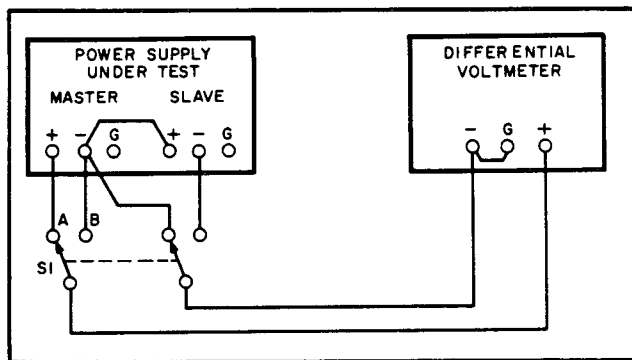

Figure 5-9. Tracking Error Test Setup
5-42 Tracking Error. The tracking error is defined as the difference in percent between the output voltage of the master and slave supplies when the instrument is operated in the tracking mode. The error is measured once for the complete instrument, as opposed to the previous tests in which the test procedure was repeated for both supplies contained in the instrument. The test setup to be used is shown in Figure 5-9. Only the front output terminals should be used for this test; the rear output and sensing terminals cannot be used when the instrument is operated in the tracking mode. In addition, note that the minus output terminal of the master (left) supply must be used as the terminal
- a. Connect test setup shown in Figure 5-9.
- b. Set front panel mode switch to TRACKING, and connect jumper between minus output terminal of left supply and positive output terminal of right supply as shown on front panel and in Figure 5-9.